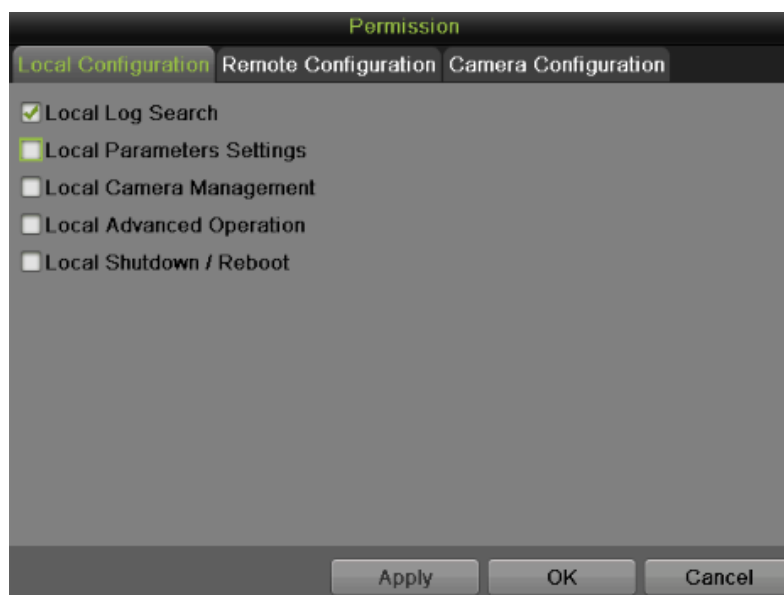

Figure 72 Permission Settings Menu
2. Click  to enter the Permission interface, as shown in Figure 72.
On the main menu (see in Figure 72), information about users are show on the lower left